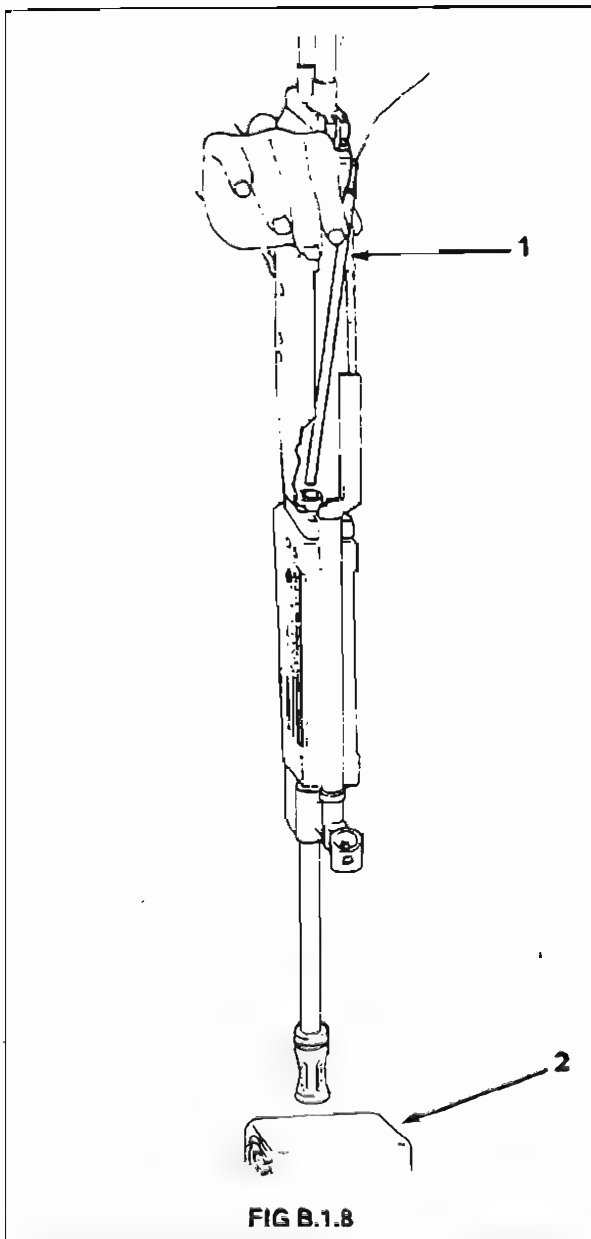

FIG B.1.8
10. The barrel straightness check can be carried out by inserting the straightness $\varnothing 5.533$ mm gauge from either end of the barrel. The barrel must be in a vertical position and the gauge must pass through the barrel under its own weight. If the gauge is inserted at the chamber end, the muzzle end of the barrel must be positioned over a piece of wood or soft material to prevent the gauge from being damaged on its exit from the barrel. See Fig. B.1-8.